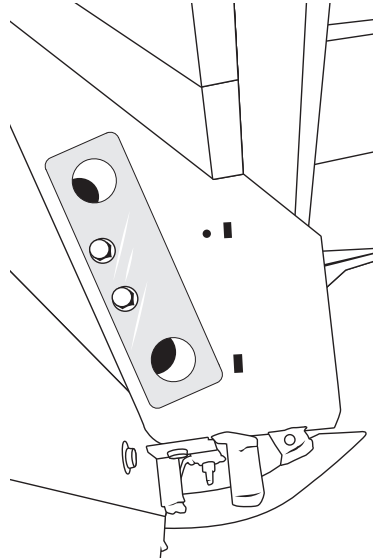

Figure 6 - Use Template to Trace the Oil Line Holes
1. To install the cooler using the factory mounting holes, secure the clear acrylic template to the driver side radiator shroud where the oil cooler would mount, as shown in Figure 6.